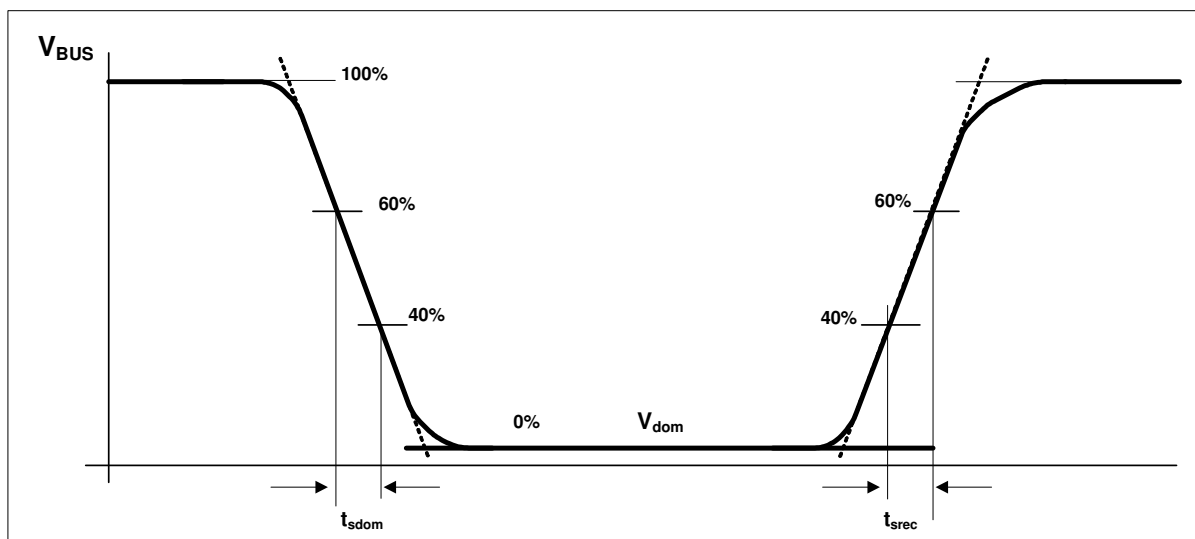

Figure 7 - Slope time and slew rate calculation in accordance to LIN 1.3
- [4] See Figure 7 - Slope time and slew rate calculation in accordance to LIN 1.3